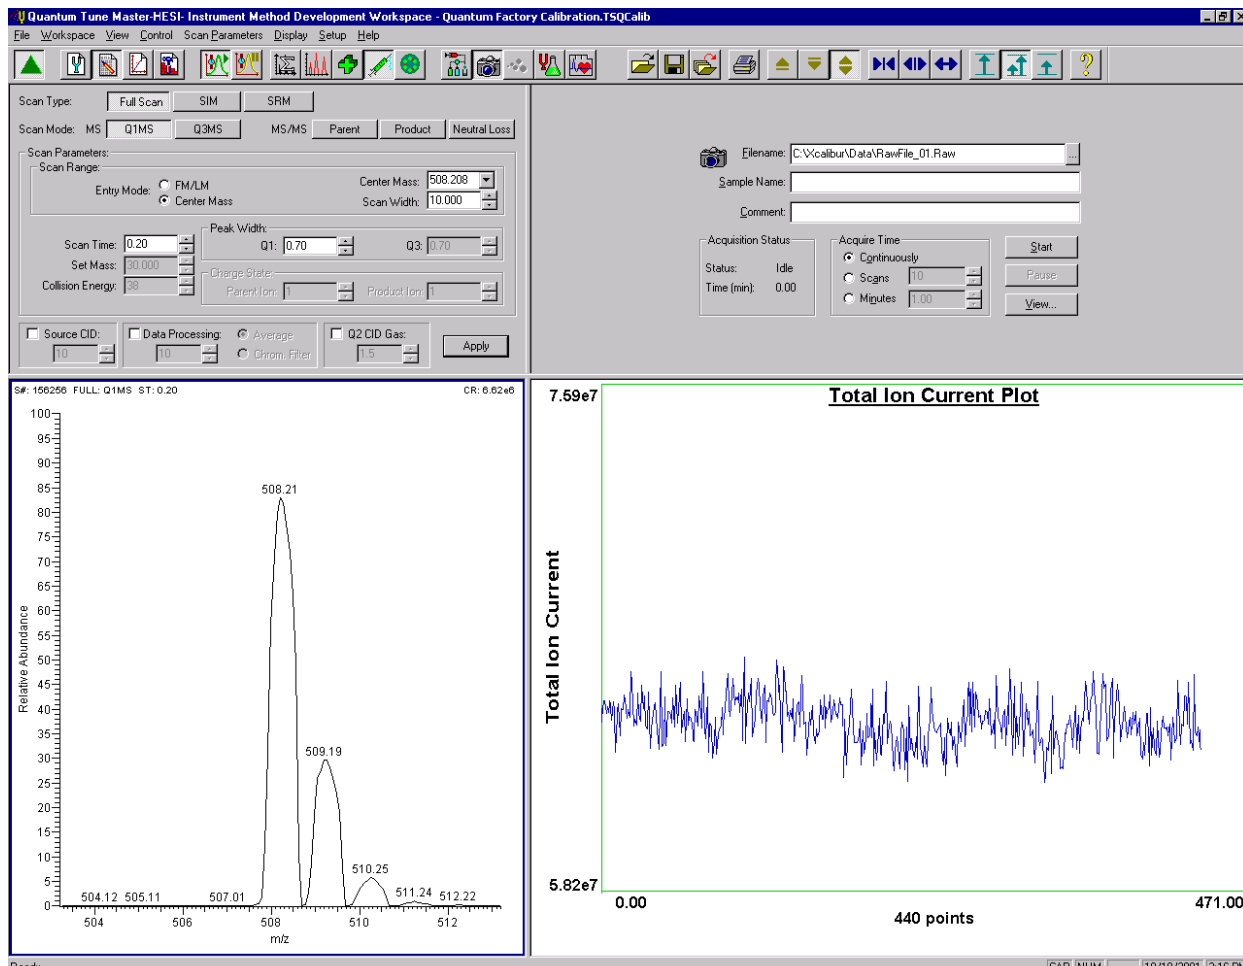

Figure 3-10. Instrument Method Development workspace, showing stable ion beam
- c. Click on the Creep toolbar button to invoke the creep Y-axis normalization mode. This allows you to observe the relative intensity of the ion at m/z 508.208. See Figure 3-10.